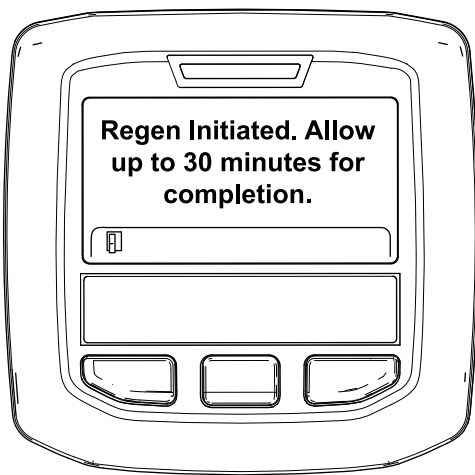

Figure 51
- If the regeneration is allowed, the "Regen Initiated. Allow up to 30 minutes for completion" message displays in the InfoCenter, wait for the machine to complete the parked regeneration process (Figure 51).